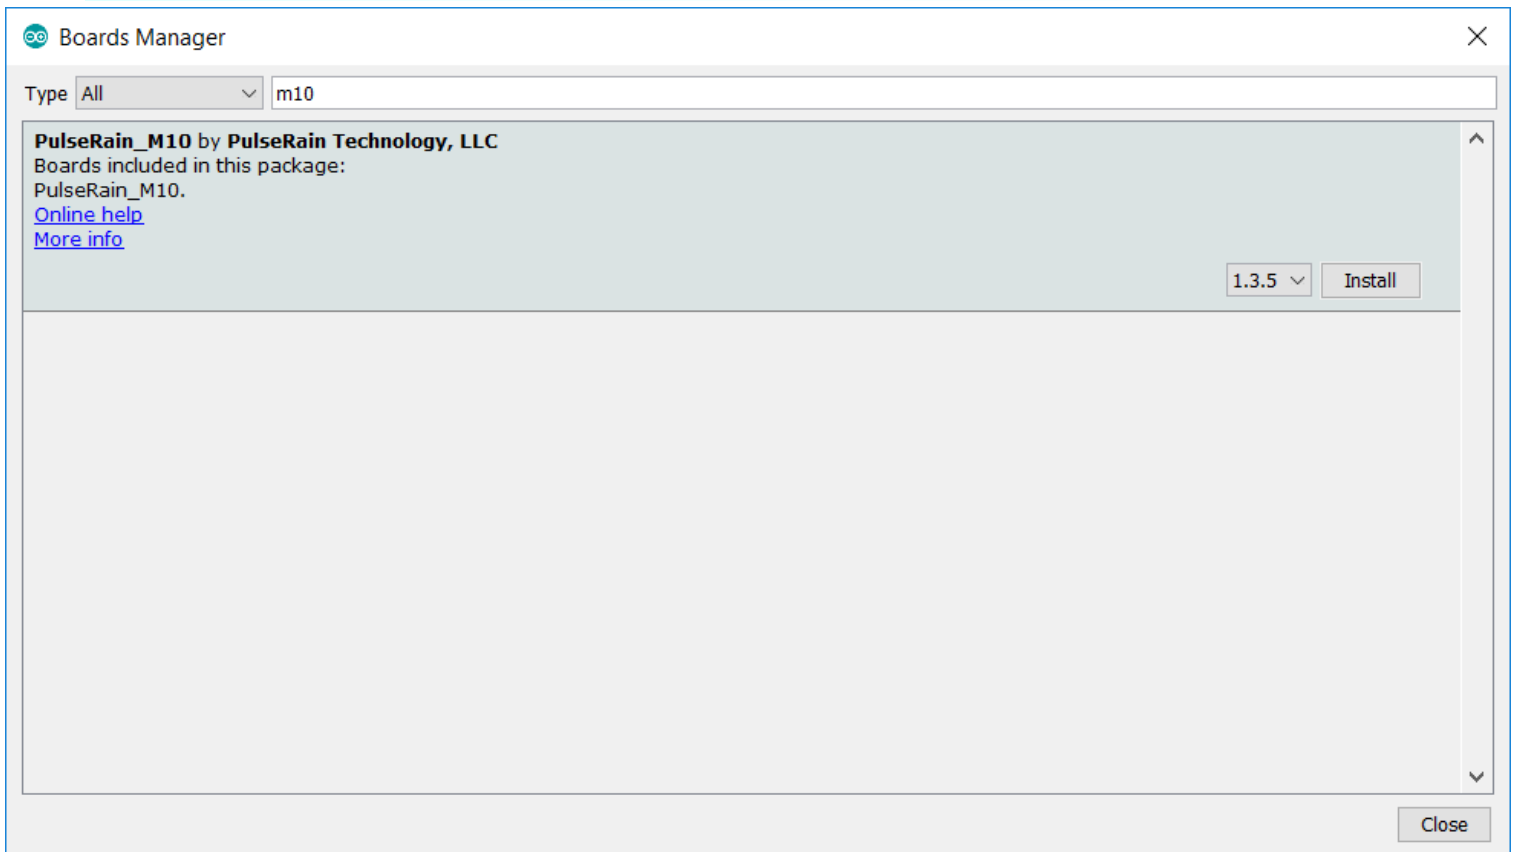

Figure 2-6 Arduino IDE, Boards Support Package for PulseRain M10
- 5) The "Boards Manager" will bring out a dialogue like the one shown in Figure 2-6. Type in "M10" in the search box to find the board support package for PulseRain M10 board. Click "Install" to download and install the board support package.